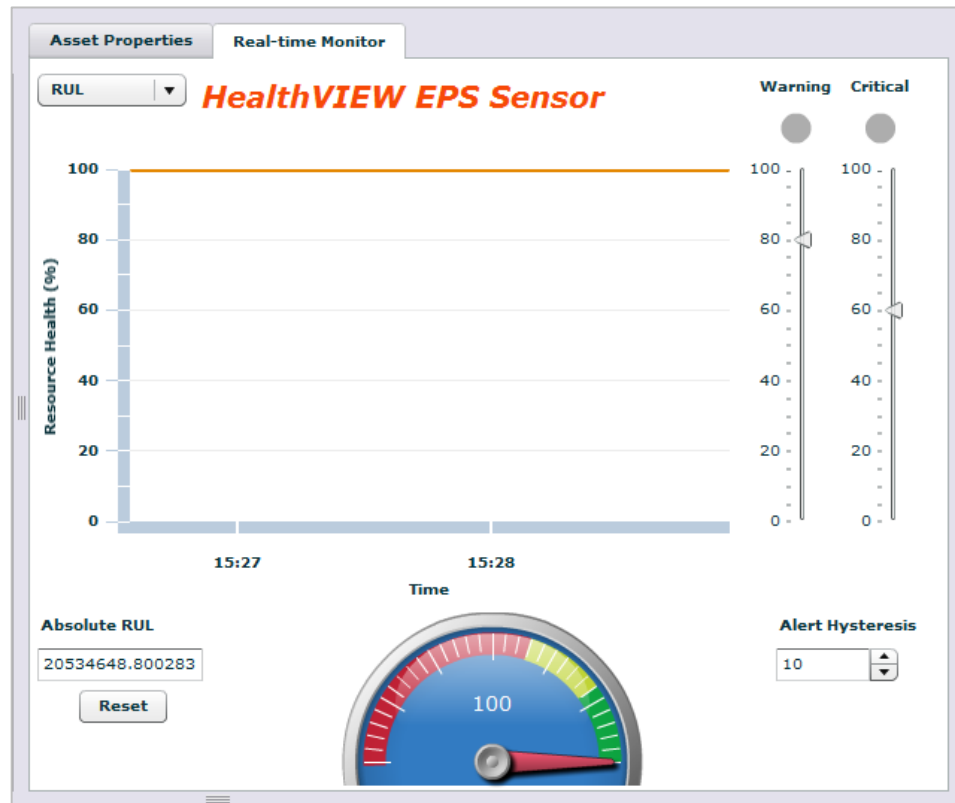

Figure 12: Real-time monitor of UPS remaining useful life
2. Click the **Real-time Monitor tab** (Figure 12) to see foreground UPS monitoring. Note that the drop-down menu in the upper left corner allows you to monitor and view either **RUL** (remaining useful life) or **SOH** (state of health) in real time.